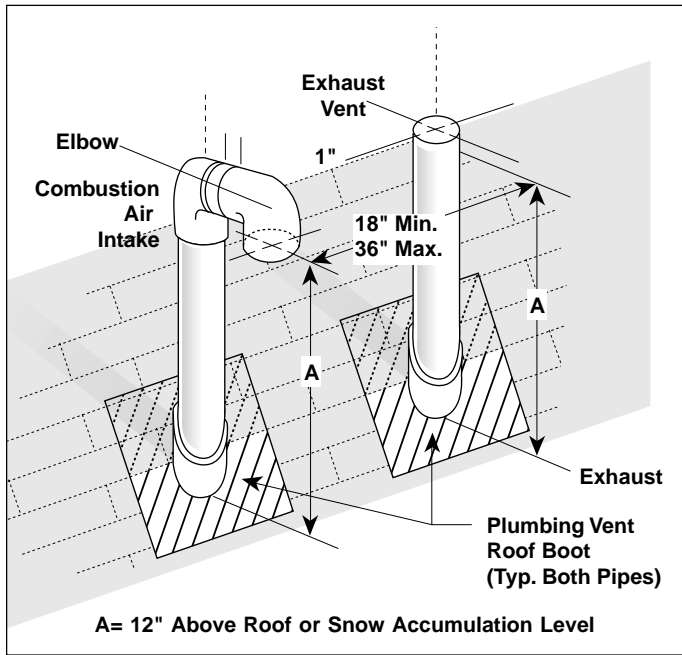

Figure 20. Vertical Vent Termination
Figure 20 shows the proper installation and clearances for vertical vent termination. The roof penetration must be properly flashed and waterproofed with a plumbing roof boot or equivalent flashing. Termination spacing requirements from the roof and from each other must be per Figure 20. Vent and combustion air piping may be installed in an existing chimney which is not in use provided that:
- c. The termination clearances shown in Figure 20 are maintained.